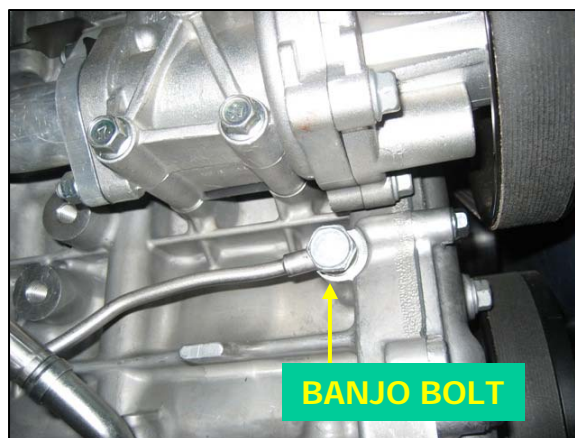

Fig. 21
24. Remove the oil feed line (hard steel) from the engine block. Its banjo bolt installs into the backside of the engine block (facing firewall) on the passenger side, directly below the water pump. Remove bolts securing the oil line to engine block and compressor housing. These bolts pass through 2 steel tabs on the oil line. Oil feed line will be reused along with banjo bolt and engine block support bolt. New M10 copper crush washers are supplied in the kit (2 bolts, 10mm wrench / socket). See figures 21 & 40.